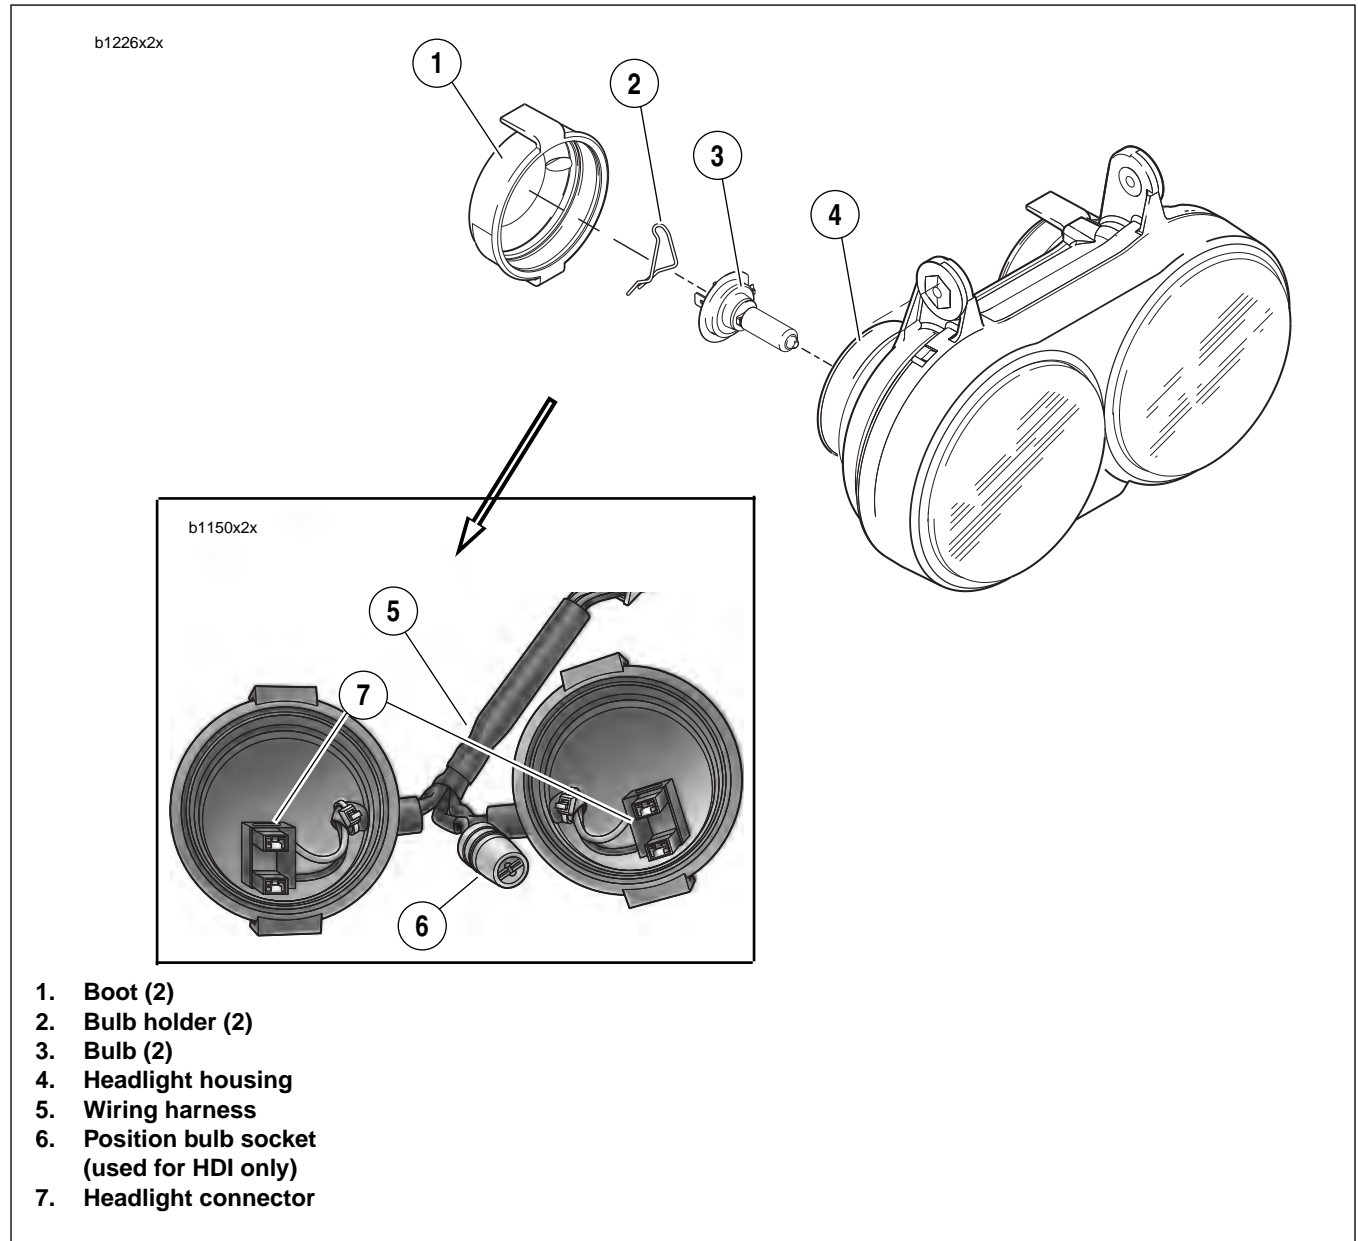

Figure 2-109. Headlight Assembly
1. See Figure 2-109. Remove rubber boots (1) from rear of headlight housing.
2. Disconnect wiring harness (5) from headlight bulbs (3) and remove along with position bulb socket (6).
3. Remove bulb holders (2).
4. Remove headlight bulbs (3) from back of headlight housing (4).
1. See Figure 2-109. Align and install headlight bulbs (3) into back of headlight housing (4).